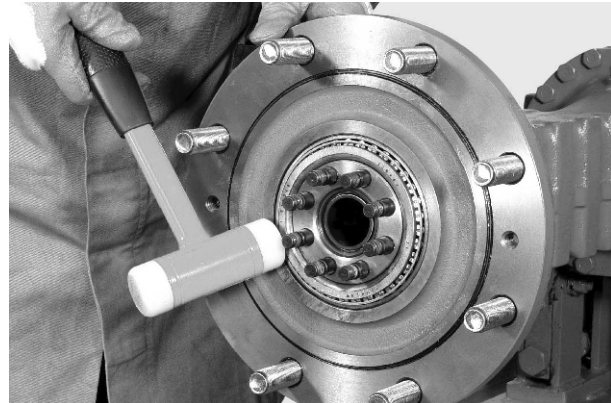

Fig 14.
- 8 Lightly oil and install the outer-bearing **26** into the hub. Lightly tap around the face of the outer-bearing **26** with a soft-faced hammer to make sure that its fully in position. ⇒ Fig 14. \(□ F-10\).